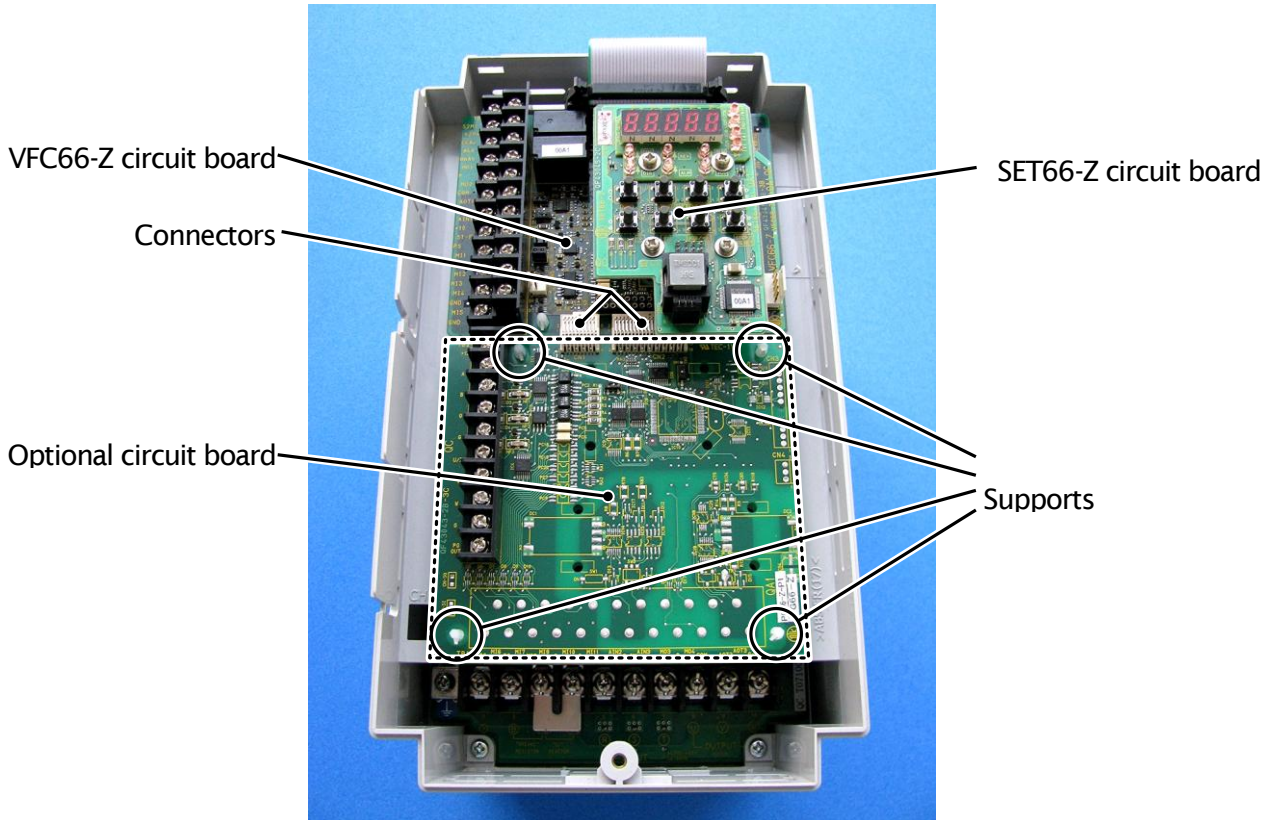
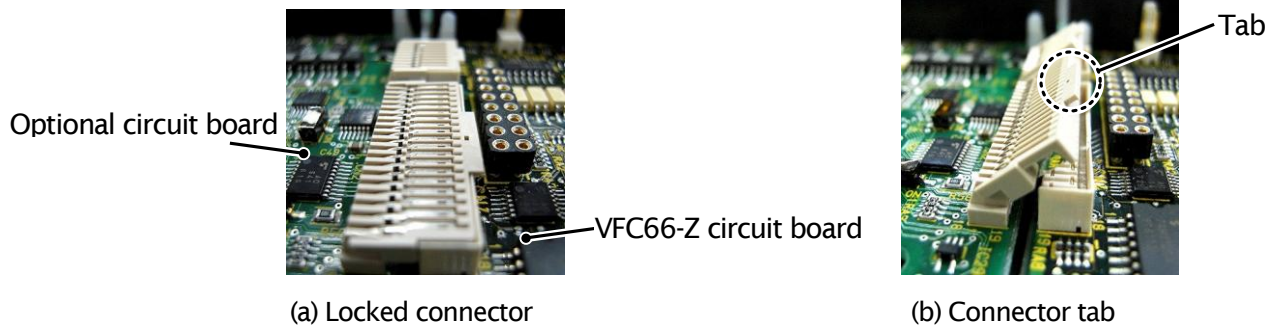
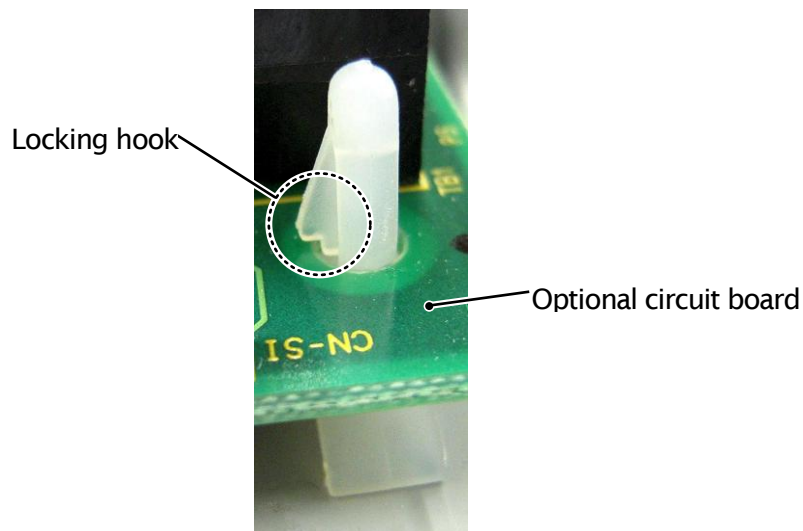

Figure 3.2 Optional circuit board installation position (VF66B-2R222)
Figure 3.4 Connector
Figure 3.5 Support locking hook
- (1) Confirm that the power is off before performing any work.
- (2) Install the IO66-Z board in the location designated by the dotted lines shown in Figure 3.2. (The figure shows the VF66B-2R222 model, however, the installation location is the same for other models.) If another optional circuit board is already installed, remove it by following the procedure described below. If another optional circuit board is not already installed, skip to (6).
- (3) In order to safely remove the optional circuit board, first remove the SET66-Z board. Remove the 4 screws indicated by the circles in the figure on the right. Pull the SET66-Z board away from the VFC66-Z board in order to detach it.
- (4) Next, release the two connectors between the VFC66-Z board and the optional circuit board. Figure 3.4 (a) shows the connector in its engaged position. Pull up the tab to release the connector as shown in Figure 3.4 (b).
- (5) 4 board supports are included to mount the optional circuit board to the inverter housing, as indicated by the circles in Figure 3.2. Press down on the board support locking hooks as shown in Figure 3.5 to remove the optional circuit board.
- (6) Align the four holes of the IO66-Z board with the 4 board supports indicated by the circles in Figure 3.2. Push down on the board until the support locking hooks snap into place as shown in Figure 3.5.
- (7) Align the tabs (shown in Figure 3.4 (b)) of the IO66-Z board connectors CN1 and CN2 with the VFC66-Z board connectors CN7 and CN4. Press down on the tabs to engage with the connectors. Once the connectors are correctly joined, it will look like Figure 3.4 (a). The movable part of the connector has some elasticity and if the joint is weak, it may become disconnected. Ensure that it is properly locked in place.
- (8) Install the SET66-Z board to its original position.
- (9) Return the front cover of the inverter to its original position.